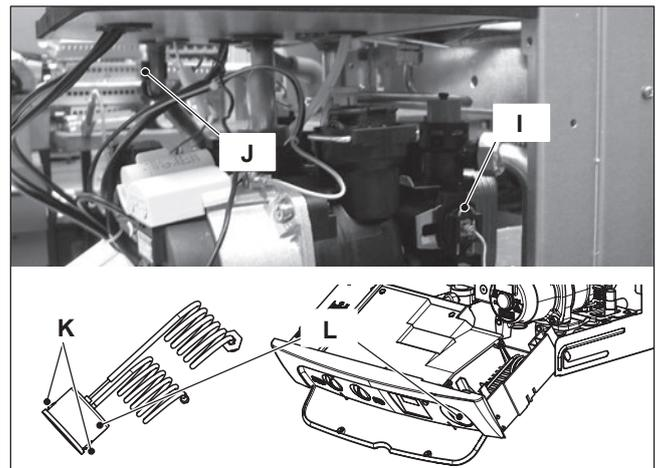

Figure 13.3
- 2 Remove the fork I and the probe holder spring J (Figure 13.3).